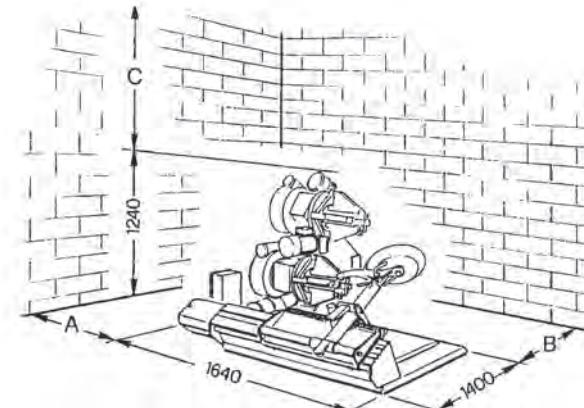

fig.16
**COLLOCAMENTO (fig.16)****DIMENTONI D'INGOMBRO:**
Ved. Fig. 16 dimensioni A - B - C
**LOCATION (fig.16)****OVERALL DIMENSIONS:**
See Fig. 16 dimensions A - B - C
**PLACEMENT (fig.16)****DIMENSIONS D'ENCOMBREMENT:**
V. Fig. 16 dimensions A - B - C
**AUFSTELLEN (Abb.16)****AUßenmaße:**
Siehe Abb. 16, Außenmaße A - B - C
**COLOCACION (fig.16)****DIMENSIONES MÁXIMAS EXTREMAS:**
Véase Fig. 16 dimensiones A - B - C